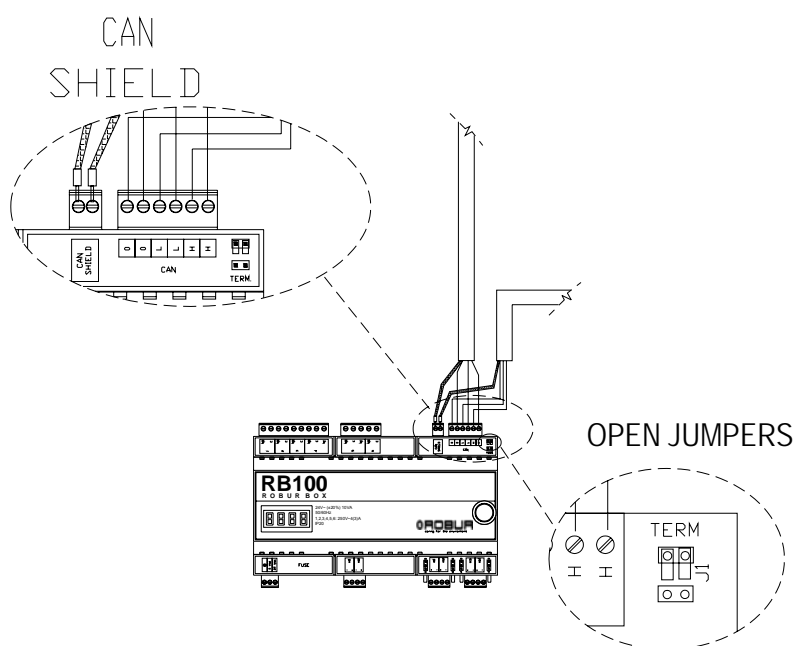

Figure 24 - Connection of 2 CAN BUS cables to RB100: Appliance IS AN INTERMEDIATE NODE. Positions for CAN BUS cable wires and jumpers are pointed out: OPENED.
7. **For intermediate nodes only:** Repeat operations in points 2 to 5 for the other CAN BUS section end necessary. Also follow point 6, but refer to Figure 24, Page 40 for connecting cable to "CAN" connector.
- if appliance is an **intermediate node** on the network (6 wires in "CAN" connector in board): locate jumpers opened as shown in Figure 24: